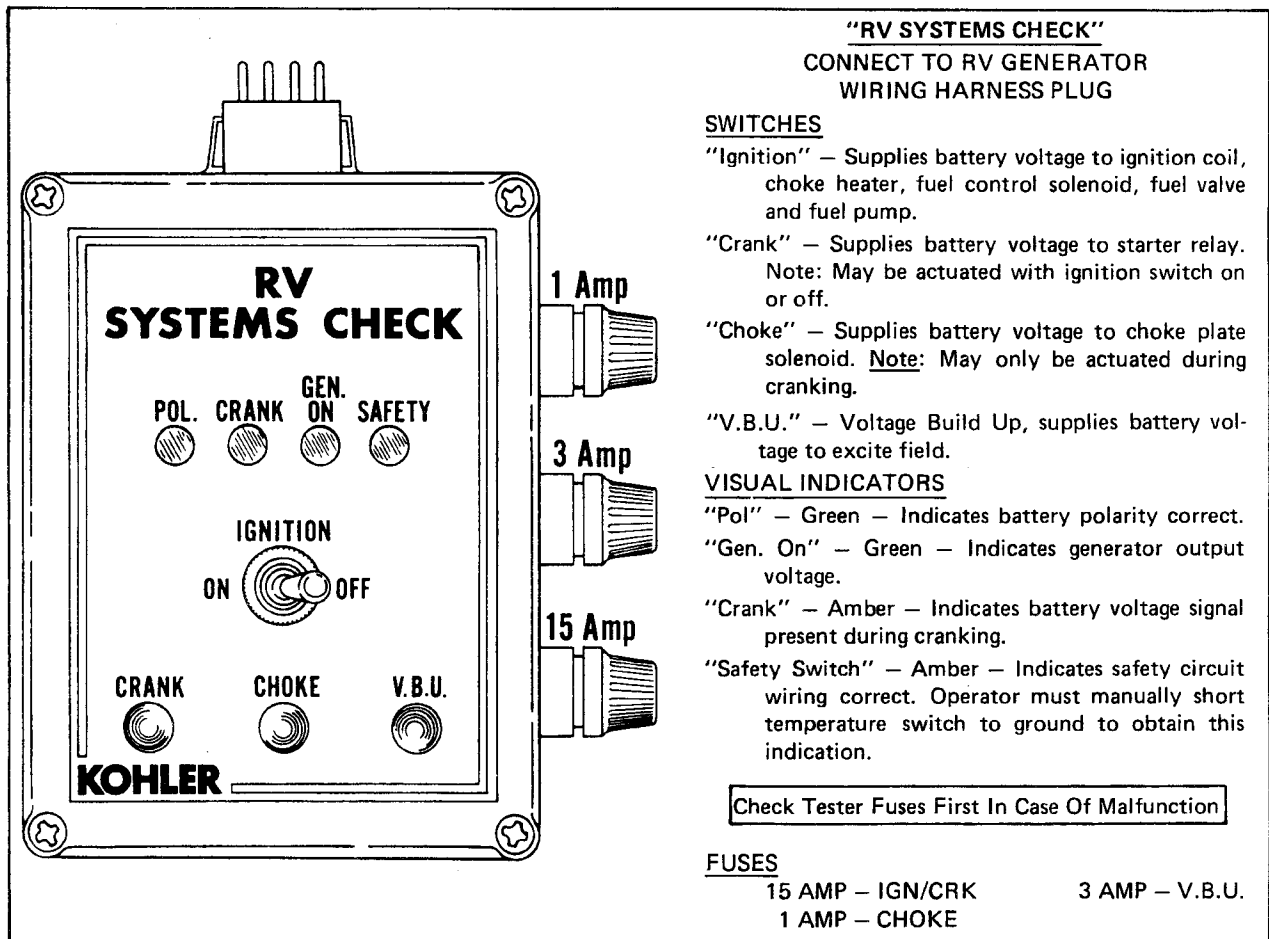

Figure 4-1. RV Systems Check
2. Check the three fuses in the RV Systems Check tester (Figure 4-1). Replace any blown fuses.